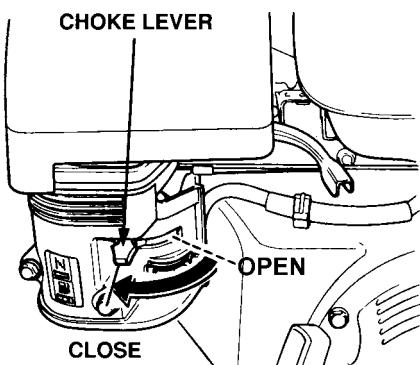

Figure 20. Choke Lever
4. Place the **Choke Lever** (Figure 20) in the "**CLOSED**" position.
7. If the engine has started, slowly return the choke lever (Figure 20) to the "OPEN" position. If the engine has not started repeat steps 1 through 5.